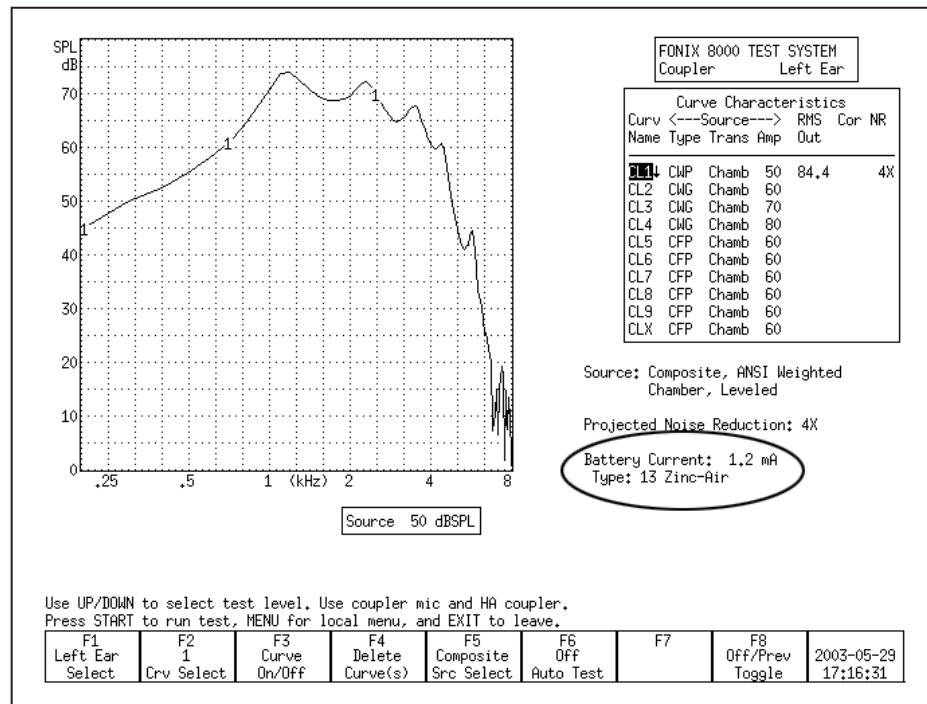

Figure 3.4.9—Battery Current Drain
7. Press [EXIT] to return to the Coupler screen. You should now see the battery current drain measurement below the Curve Characteristics box. See Figure 3.4.9.